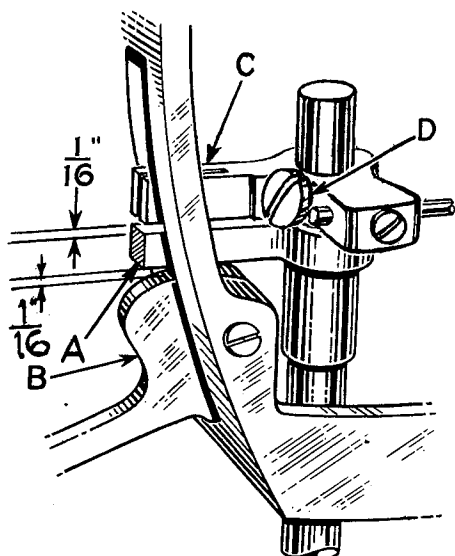

Fig. 8
The presser bar connection (A, Fig. 8) should be set so that it is $\frac{1}{16}$ inch from the hand lifter (B) at all times.